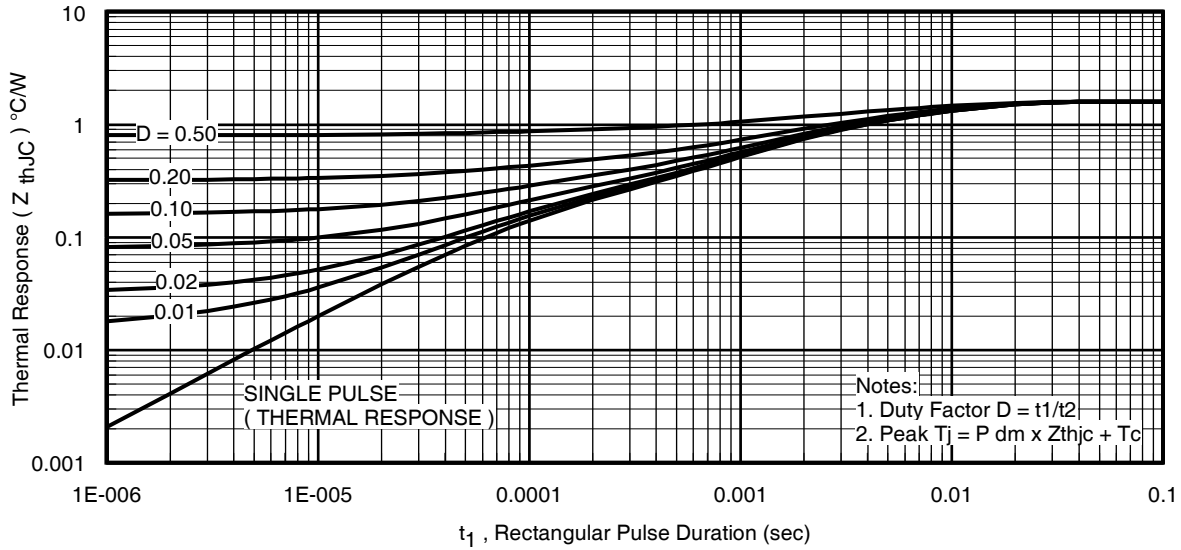

Fig 14. Maximum Effective Transient Thermal Impedance, Junction-to-Case
**Notes on Repetitive Avalanche Curves , Figures 14, 15:
7. ΔT = Allowable rise in junction temperature, not to exceed T_{jmax} (assumed as 25°C in Figure 14, 15).